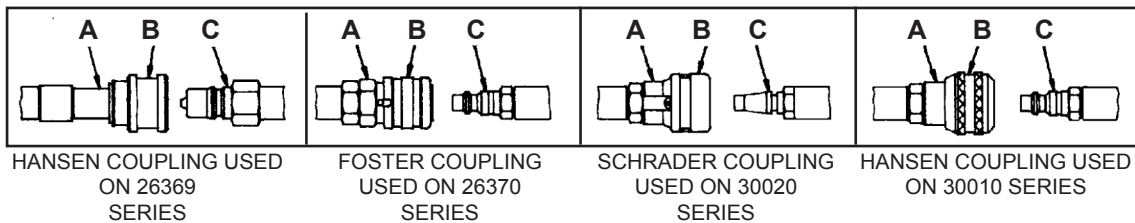

FIGURE 11
3. **TOTAL LENGTH OF AIR SUPPLY LINE** - Hoses are available in lengths indicated by the last three digits of the part number. For example, P/N 30010-025 is a twenty-five foot hose with Hansen fittings. Hoses are available in incremental lengths of 25 feet up to 100 feet. Refer to TABLE 1, LIMITATIONS AND OPERATING INSTRUCTIONS FOR SUPPLY HOSE and FIGURE 11 for details on operating the quick disconnect couplings and for limitations on air supply line length and number of segments allowed.